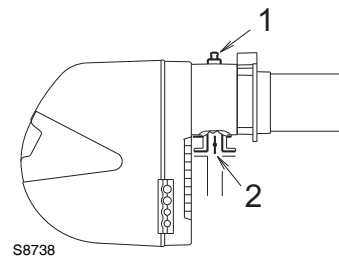

Fig. 38
Gas pressure measured at the test point 1)(Fig. 38), with:
Load loss at gas butterfly valve 2)(Fig. 38) with maximum opening: 90°.
- Subtract the combustion chamber pressure from the gas pressure measured at test point 1)(Fig. 38);
- Gas pressure at test point 1)(Fig. 38) = 10.9 mbar
To know the required gas pressure at test point 1)(Fig. 38), set the maximum output required from the burner operation, then:
- Read, on the right (column 1) the socket pressure 1)(Fig. 38);
gas pressure at test point 1)(Fig. 38)